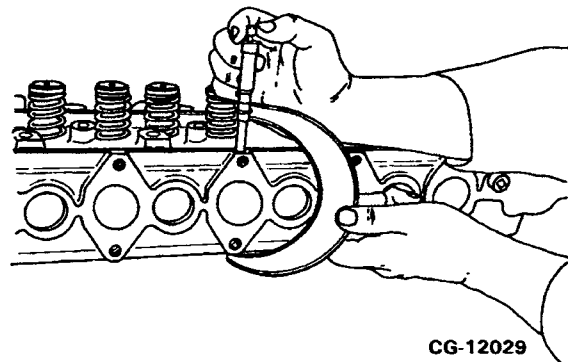

Figure 4.11. Measure Cylinder Head Thickness
2. Measure cylinder head deck thickness, using a micrometer, at six locations. Refer to Figure 4.11. Refer to "SPECIFICATIONS". If the minimum deck to deck dimension cannot be met, replace the cylinder head.